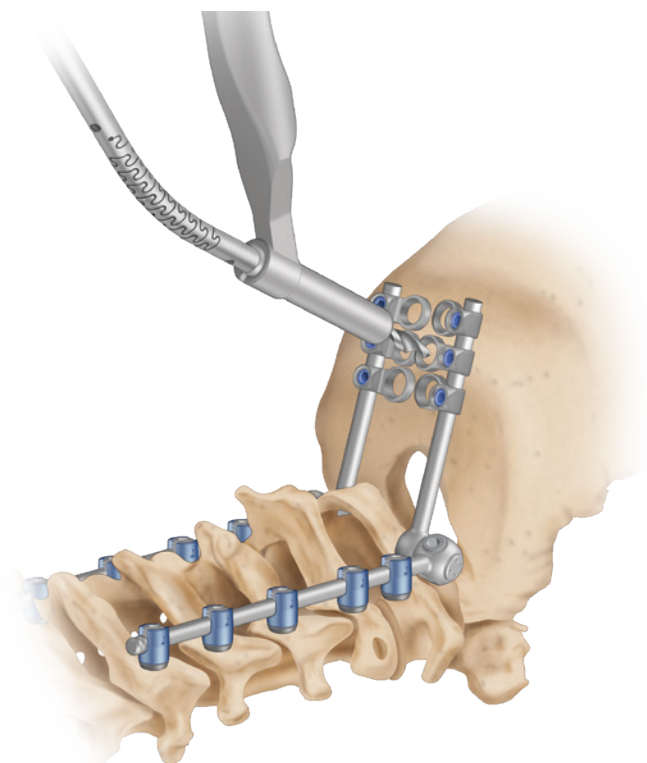

Figure 91
Select the appropriate Drill-Tap (DT) Guide based on the desired drilling depth. The DT Guides are available with fixed drilling depths from 6mm to 14mm in 2mm increments. Both the Straight and Flexible Drill Bits must be used in conjunction with the DT Guide to achieve a fixed drilling depth (Figure 54). When the flexible drill bit is used, the DT Guide will help stabilize the flexible shaft and direct the drill bit in the proper position. Using the DT Guide to align the drill hole in the Occipital Screw Connector, insert the Flexible Drill Bit (G3600321) through the DT Guide, and drill to the desired depth (Figure 91). Drilling must be done through the Occipital Screw Connectors to ensure proper drilling depth.